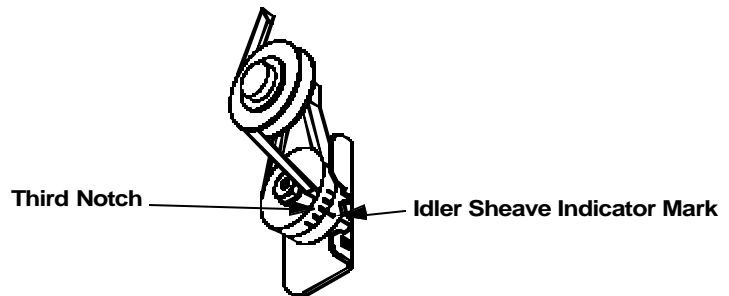

Figure 16. Idler Sheave Indicator Mark
- Check Belt Tension. The Belt should be tensioned just tight enough to minimize Belt slippage. Over tensioning the belt will cause premature Belt and Bearing wear. With a new Belt the Idler Sheave indicator mark should line up with the third notch in the Tensioner Housing (See **Figure 16**).